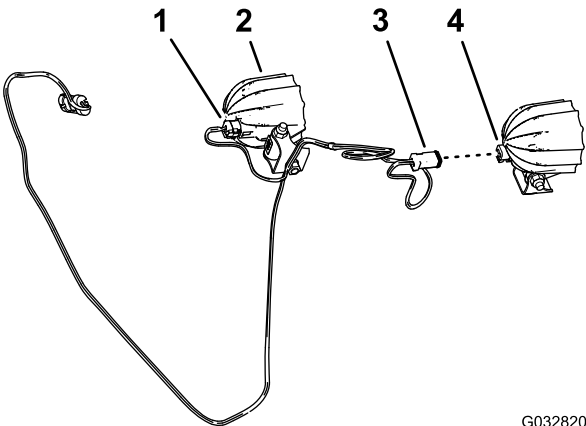

Figure 7
1. Connect the 2-pin of the LED light into the 2-socket connector of the LED light harness (Figure 7).
2. Repeat step 1 for the other LED light and the other 2-socket connector of the harness (Figure 7).